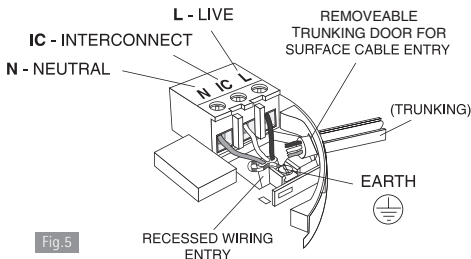

Fig.5
IC: Interconnect - see figures 5 and 6 and further information in Section 2.7.
4. If the mains wires are recessed, bring the wires through the rear hole in the mounting plate as shown in Figure 5.
- (a) position the mounting plate so the cable trunking is as shown in Figure 5.